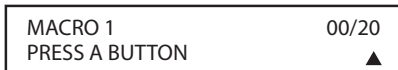

Figure 107.
6. The next display (**Figure 107**) and the subsequent screens are where the actual macro programming takes place. The words at the left side of the top line of the display show the button that is being programmed (e.g., the **Macro 1 Button 42**) and the indication on the right side of the top line shows the number of macro steps available, of 20 possible steps. Following the instructions on the remote's LCD screen, press the first key you wish to be transmitted in the macro. In our example, we first want the AVR21EN to turn on, so the **AVR ON Button 2** should be pressed.